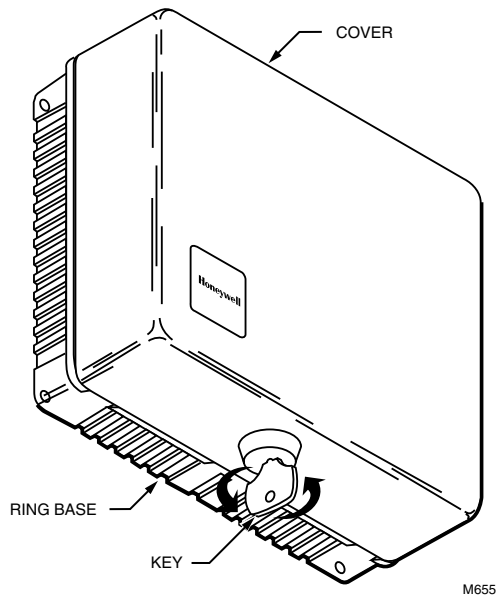

Fig. 8. Lock thermostat guard (TG510, TG511, TG512 shown).
- 6 Lock the thermostat guard by turning the key (provided) counterclockwise. See Fig. 8. The key can be removed only in the locked position.
- 10 Lock the thermostat guard by turning the key (provided) counterclockwise. See Fig. 8. The key can be removed only in the locked position.
- 11 Lock the thermostat guard by turning the key (provided) counterclockwise. See Fig. 8. The key can be removed only in the locked position.
- ⓮ Lock the thermostat guard by turning the key (provided) counterclockwise. See Fig. 8. The key can only be removed in the locked position.